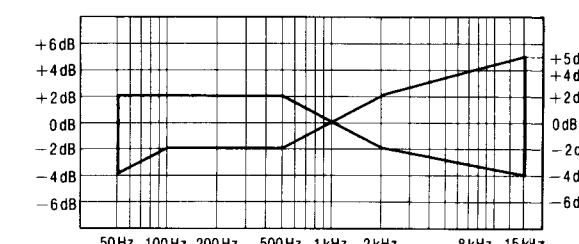

Fig. 10
5. After that increase the signal recorded on CrO₂ blank tape (QZZCRX) and metal blank tape (QZZCRZ) up to 15 kHz and adjust in the same way as mentioned above and check that the frequency level is within the range shown in Fig. 10.